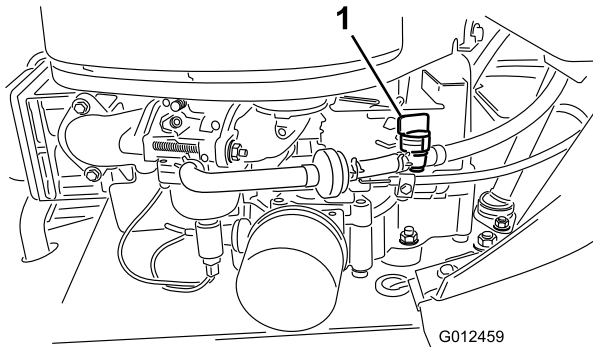

Figure 29
6. Close the fuel shut-off valve (Figure 29).
7. Squeeze the ends of the hose clamps together and slide them away from the old fuel filter (Figure 29).